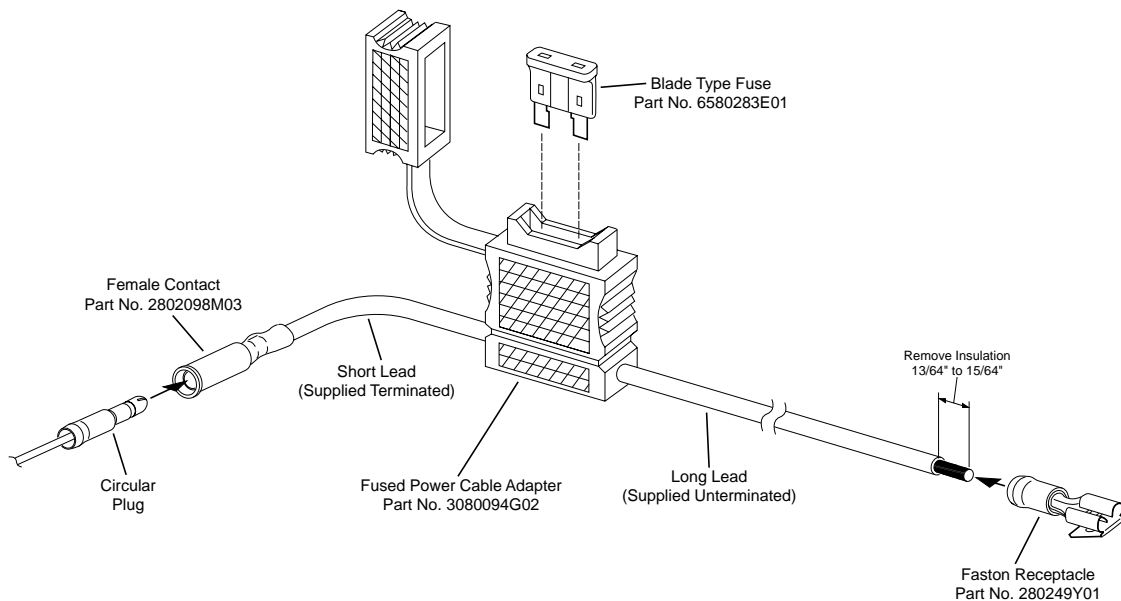

Figure 46 Fused Power Cable Adapter
1. Refer to Figure 46. Remove 0.2 to 0.3-inch of insulation from unterminated wire of fused power cable adapter.